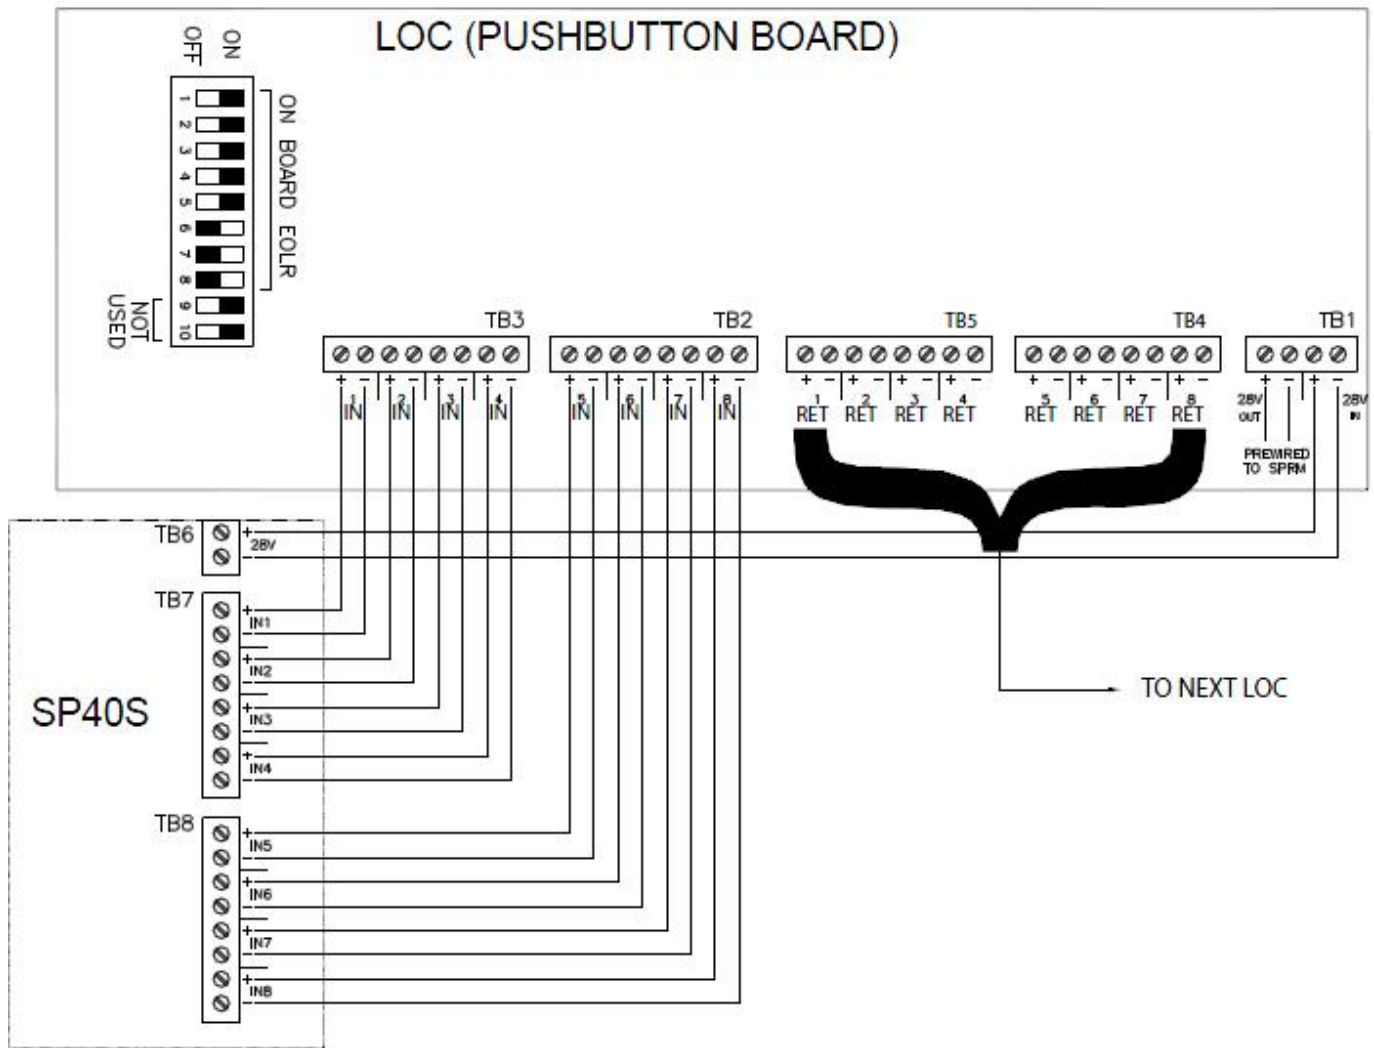

Figure 4: Wiring Diagram (Pushbuttons) SP4-LOC to SP40S
2. Connect the pushbutton IN wiring to the terminal blocks (TB2 and TB3) as shown in Figure 4 (SP40S).
4. Connect 28V wiring to the terminal blocks as shown in Figure 4 (SP40S). 28V wiring is needed on the Pushbutton Board to illuminate indicator LEDs when a button is pressed.
7. To eliminate the need for external 10K EOLRs, the user can activate on board EOLRs by the DIP switch (positions 1 through 8) on the Pushbutton Board of the SP4-LOC (shown in Figure 4). Turn the switch ON if the 10K EOLR is needed. If the 10K EOLR is not needed or if it is not the end-of-line, turn the corresponding DIP switch position OFF.